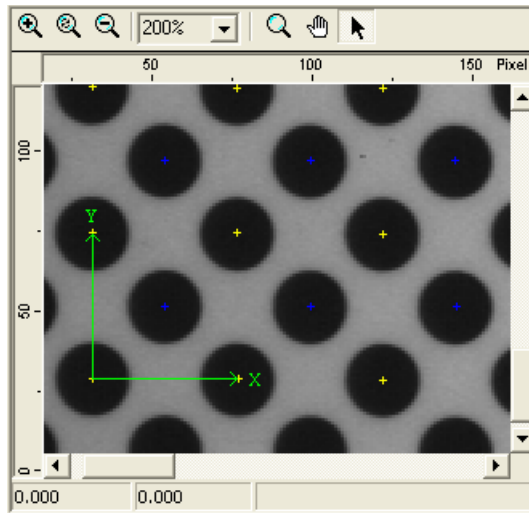

Figure 113 Zoom-in on the Coordinate Marker in the Calibration Dialog
9. Zoom in at the lower left corner of the display. A green coordinate system marker should be displayed in the bottom left, as in Figure 113. Note that this coordinate system is displaceable programmatically or with the mouse; leave it as is for this tutorial.